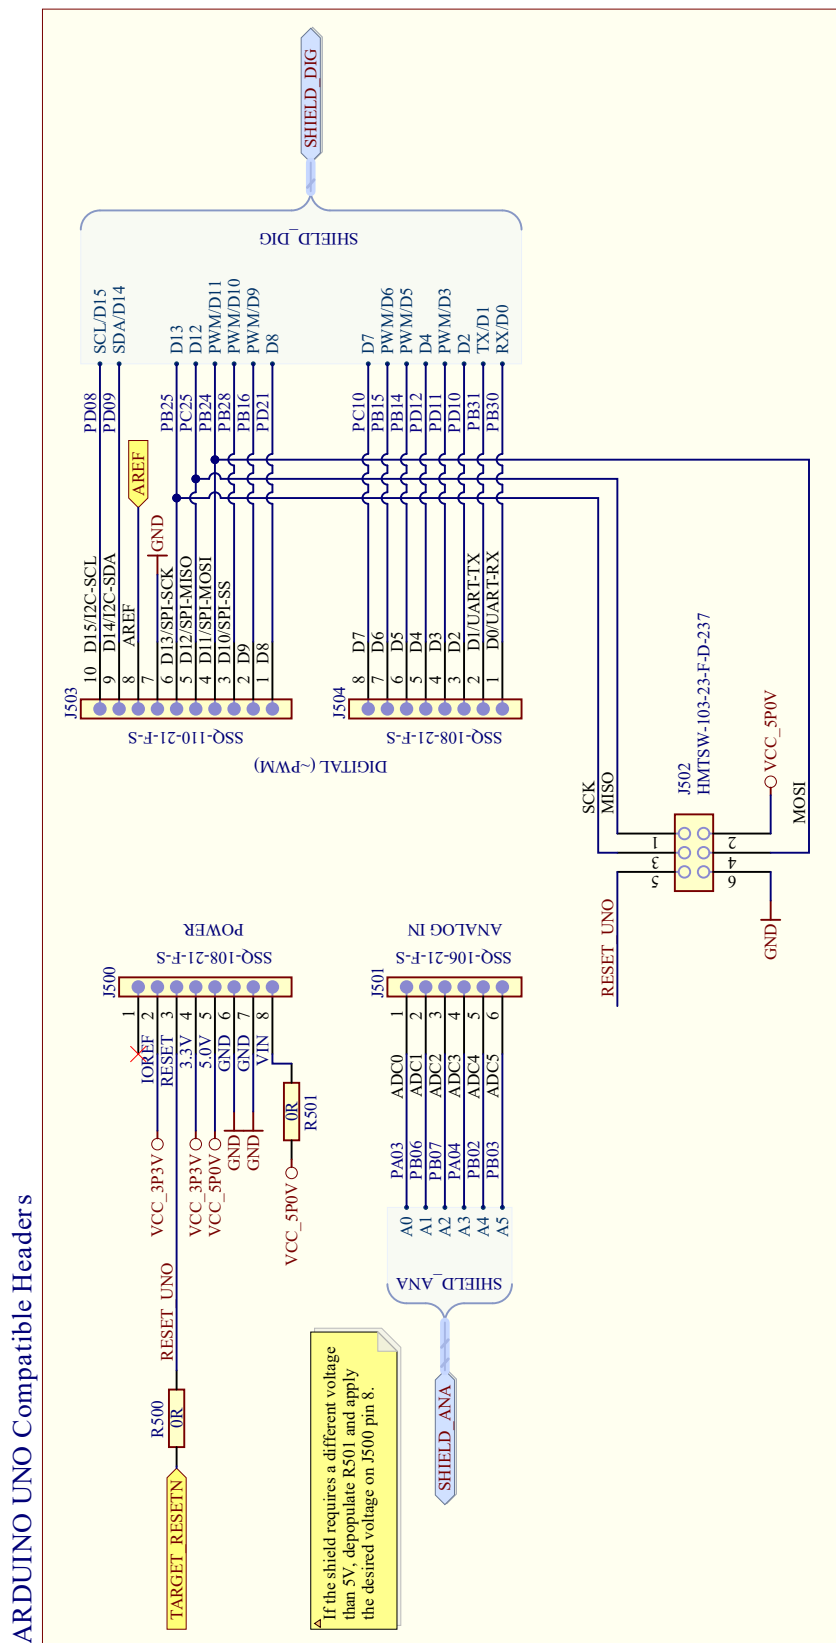

Figure 2-6. Extension and Test Headers Schematic
- Extension and Test Headers Schematic, Figure 2-6